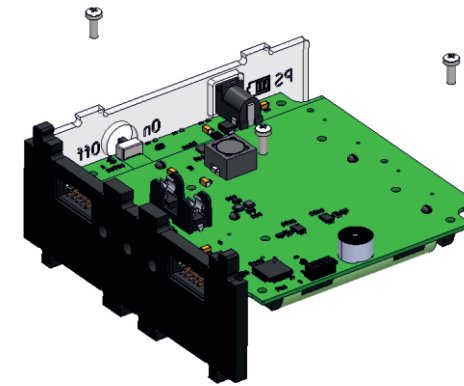

Fig. 5: Mounting a side wall
4) Place PSS board connectors into side wall holes while aligning the side surface of the transparent panel with a recess in the side wall (Fig. 5):